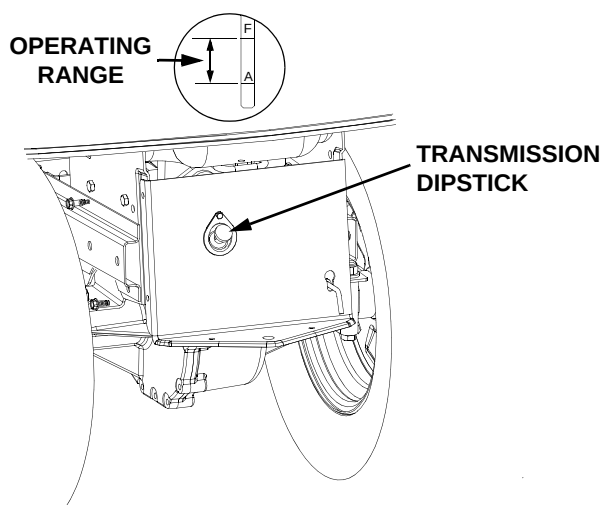

Figure 20
Check the oil level of the transmission case before each use to see that it is filled to the correct level. Before checking the transmission oil level, clean the area around the oil fill plug/dipstick to prevent debris from entering the transmission case. Always keep the oil level between the "FULL" and the "ADD" marks on the dipstick (See Figure 20). When checking the oil level, the dipstick must be withdrawn and wiped clean, then inserted all the way before being withdrawn for a true reading.
3. Remove the oil fill plug/dipstick from the oil fill port and SLOWLY pour oil into the oil fill port. Fill the transmission case until the oil level reaches the "FULL" mark on the dipstick (Refer to Figure 20).
6. Remove the oil fill plug/dipstick from the oil fill port and SLOWLY pour oil into the oil fill port. Fill the transmission case until the oil level reaches the "FULL" mark on the dipstick (Refer to Figure 20).